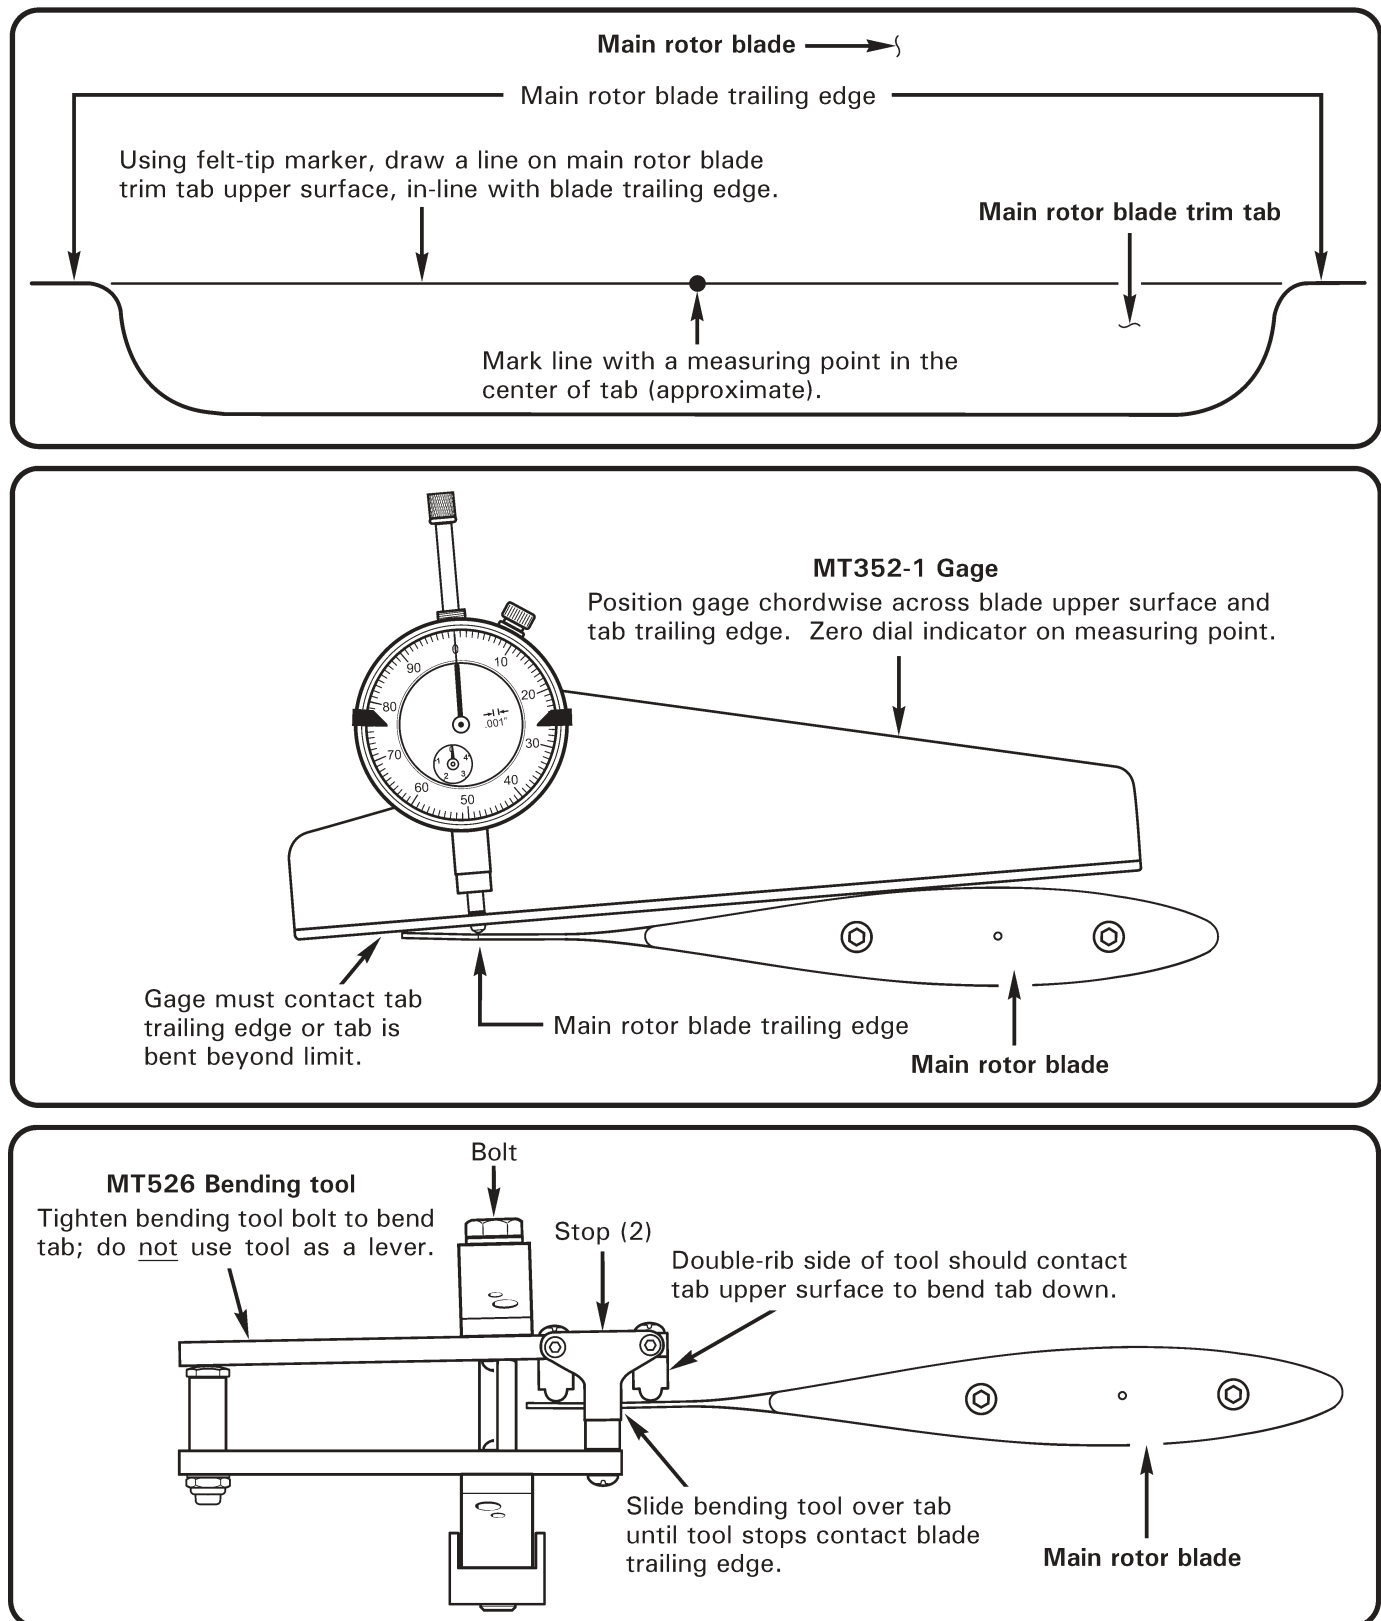

FIGURE 10-13 MAIN ROTOR BLADE TRIM TAB ADJUSTMENT
1. Using felt tip marker, ink mark main rotor blade trim tab per Figure 10-13. Mark | line with a measuring point in the center of the tab (approximate).